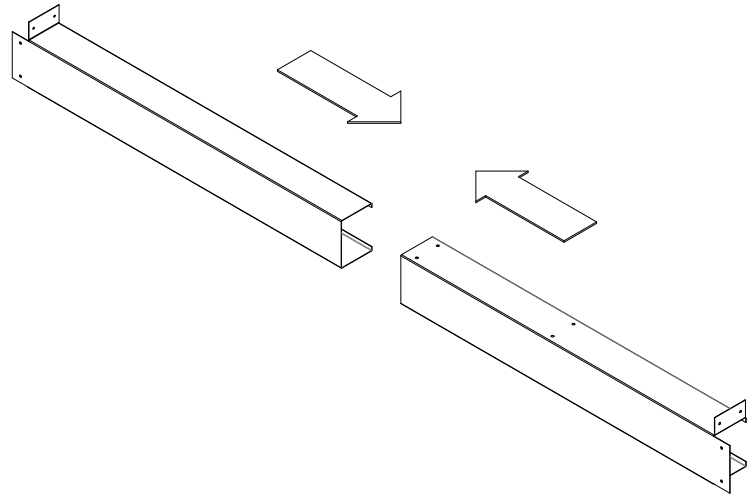

Figure 27: Steel Stud Assembly
- Take the two steel stud pieces and slid them into each other. The flanges of each piece should be at the end of the assembly, as well as facing upwards as shown in Figure 27.